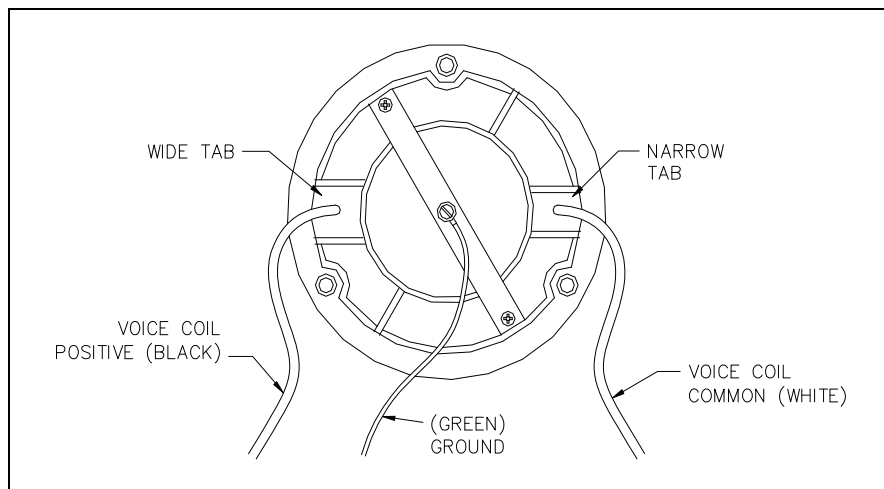

Figure 1. Models 13314-001 and -002 Rear View with Cover Removed
7. For Models 13314-001 and 13314-002, connect the black wire onto the wide tab connection of the voice coil and the white wire to the narrow tab. See Figure 1 below.